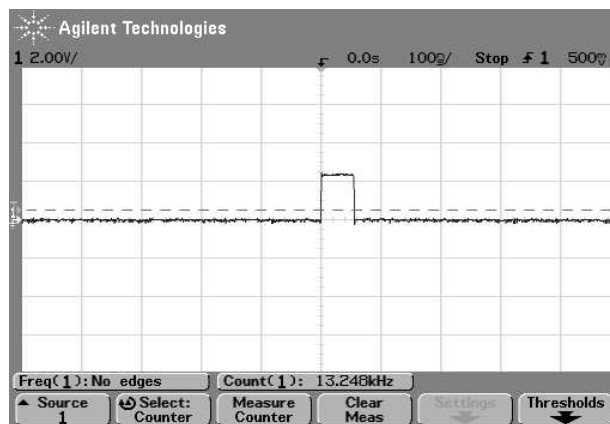

Figure 4: Measuring count rate using an oscilloscope and the photon counter.
- A count rate of  $\approx 13\ kHz$  was recorded here (see Fig. 4). Clearly, the photon counter can measure this count rate and much higher count rates with ease due to its active quench/reset circuitry.